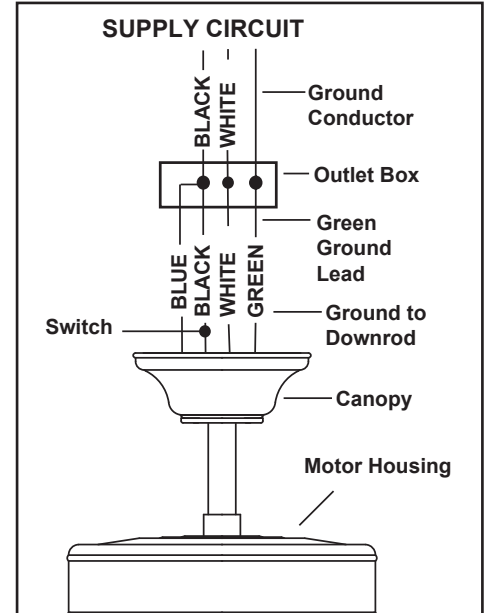

Figure 15
1. Connect the ground conductor of the 120v supply (this may be a bare wire or a wire with green colored insulation) to the green ground lead(s) of the fan (Figure 15). When using standard ceiling mounting, there are two green grounding leads; one from the ceiling mounting bracket and one from the ball/downrod assembly. When using “closeto-ceiling” mounting, there is only one green ground lead from the ceiling mounting bracket since the ball/downrod assembly is not used.
2. Connect the fan motor white wire to the supply white (neutral) wire using a wire nut (Figure 15).
3. Connect the fan motor black wire to the supply black (hot) wire using a wire nut (Figure 15).